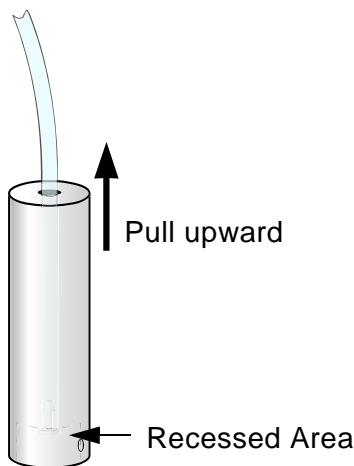

Figure B-3. Pulling Tubing Upward
7. Gently pull the tubing upward until the barbed fitting seats itself within the recess of the tubing weight (see Figure B-3).